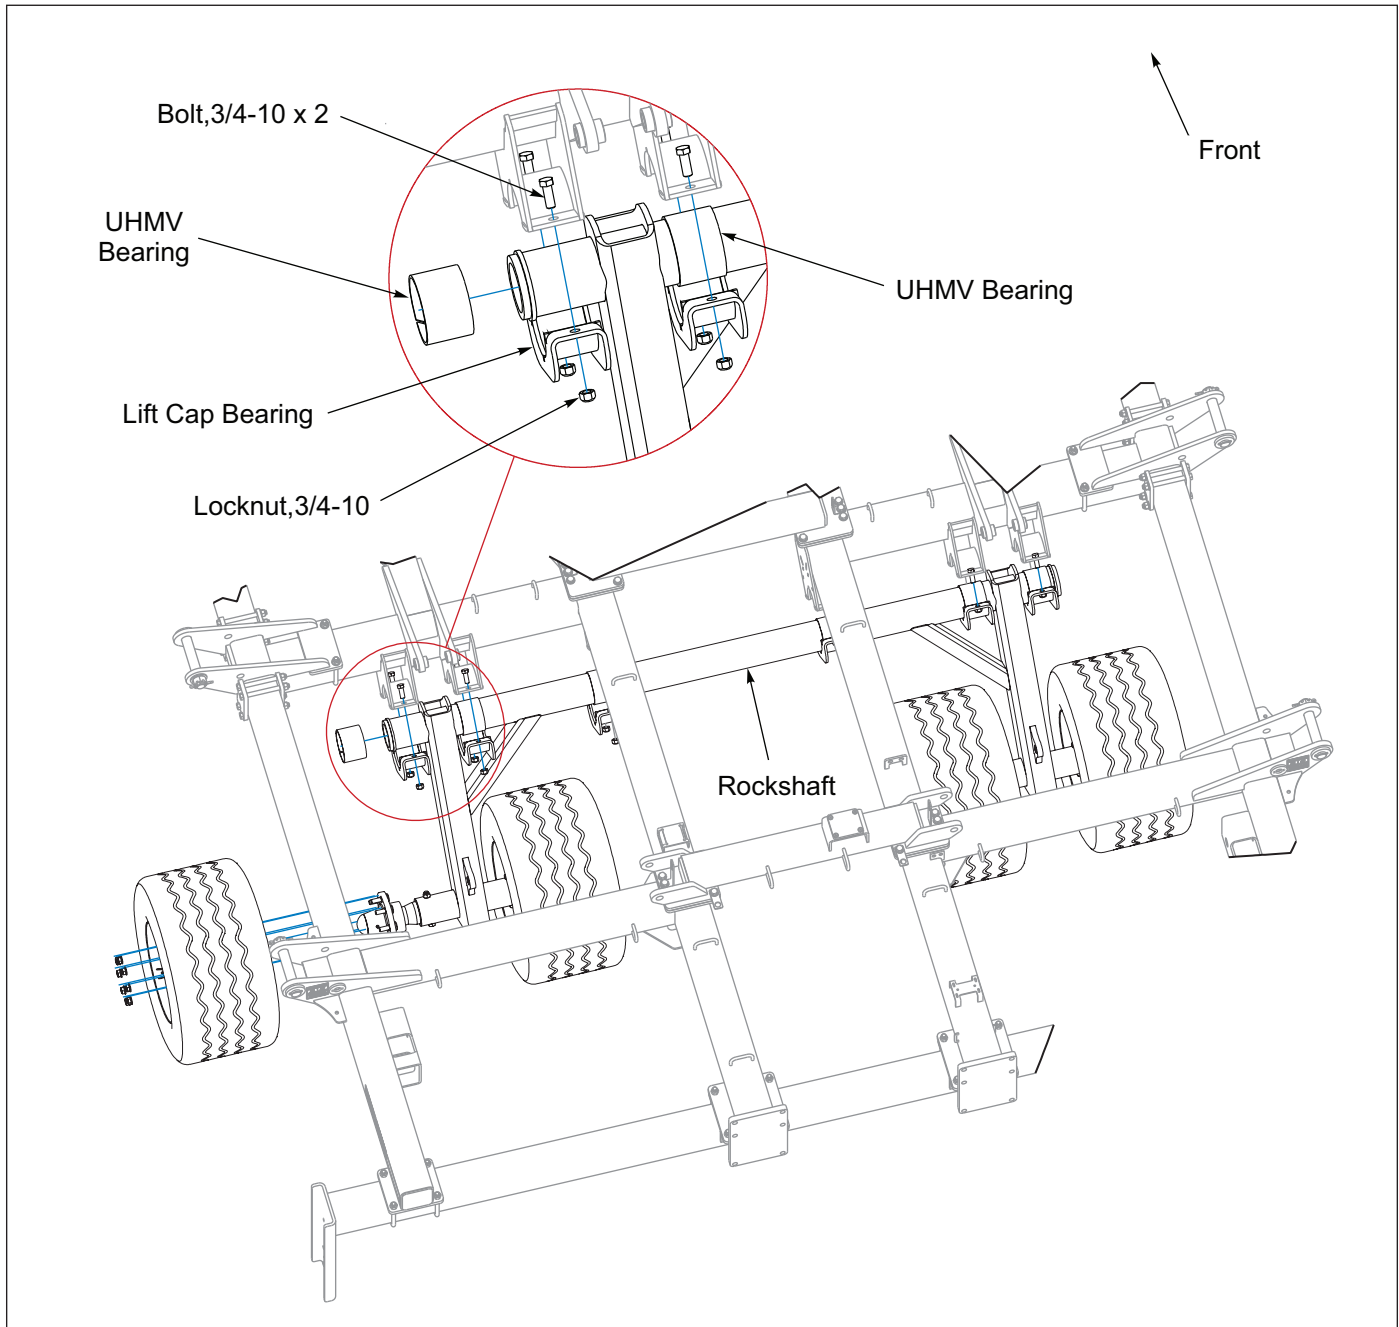

Figure 2-5: Rockshaft Installation
1. Spread open the six UHMW Bearings and place them onto the Rockshaft. Make sure the mounting surface is free of rust or dirt. See Figure 2-5.